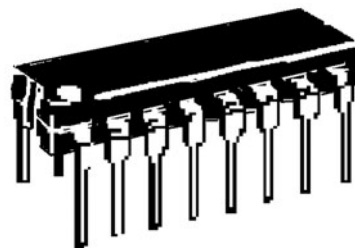

Figure L1-2
NOTE Do not remove the small integrated-circuit (IC) chips shown in Figure L1-2 from their antistatic packaging. They are packed in a special antistatic tube or special sponge material.